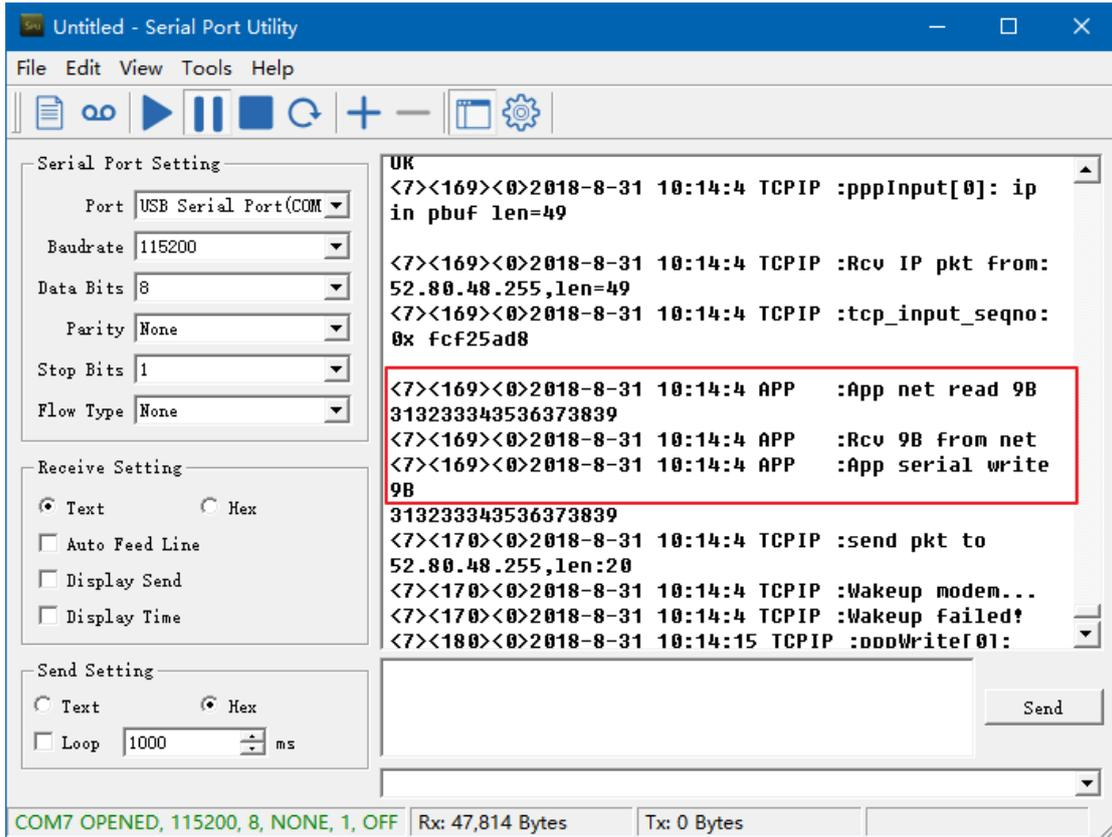

Figure 2-8 Check the received data on serial port
Step 3: Connect serial port 2(Communication interface) to the PC with a serial cable. Run a serial port tool, such as Serial Port Utility, on the PC to view the content received from the center, as shown in Figure 2-8.